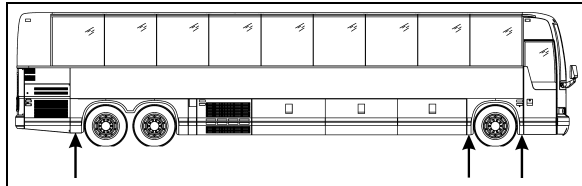

FIGURE 5: JACKING POINTS ON FRAME (TYPICAL) 18618
1. Raise vehicle by its jacking points on the body (Figure 5 or see Section 18, "Body" under heading "Vehicle Jacking Points"). Place jack stands under frame. Remove drive axle wheels (if required, refer to Section 13, "Wheels, Hubs And Tires".